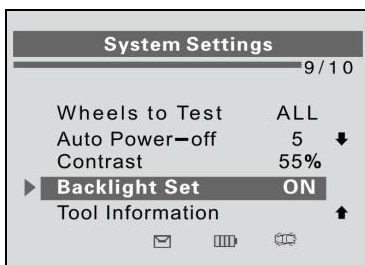

Figure 2.18
- 1) From **System Settings** screen, use the **UP/DOWN SCROLL** button to select **Backlight Set**, and press the **Y** button. (Figure 2.18)